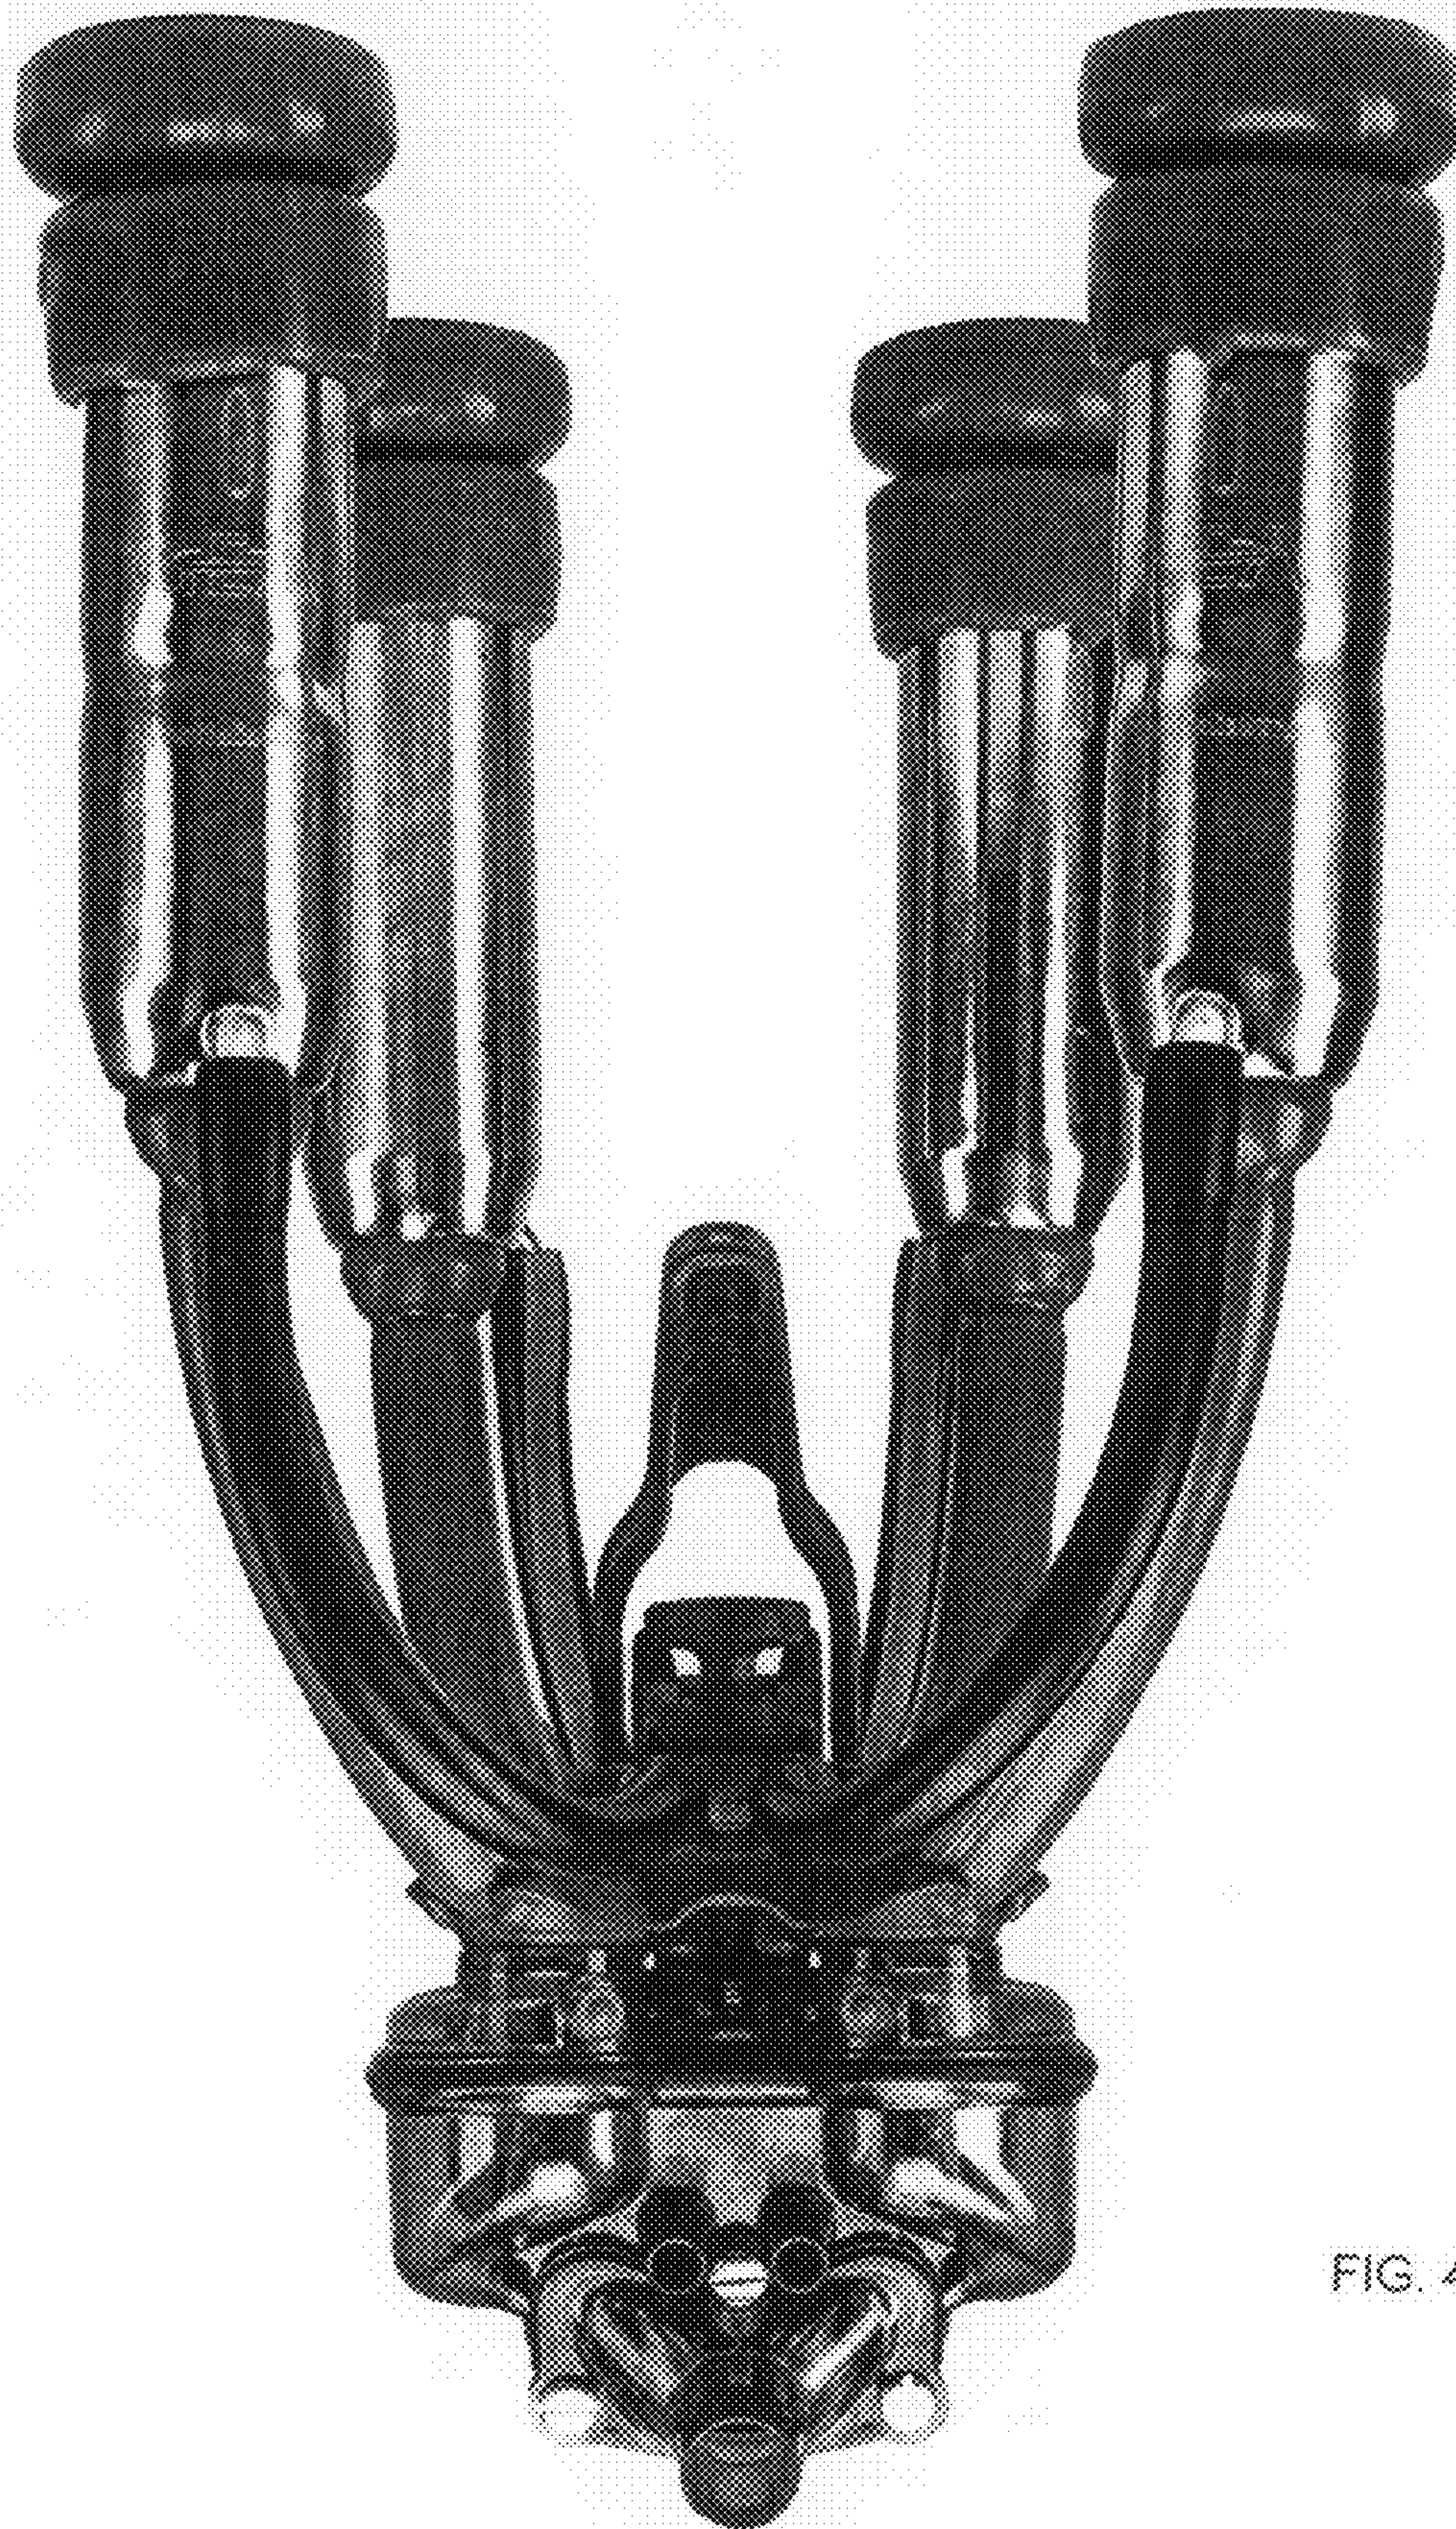

FIG. 4
- FIG. 4 is a front elevational view of the milking machine with the lever in a raised position;